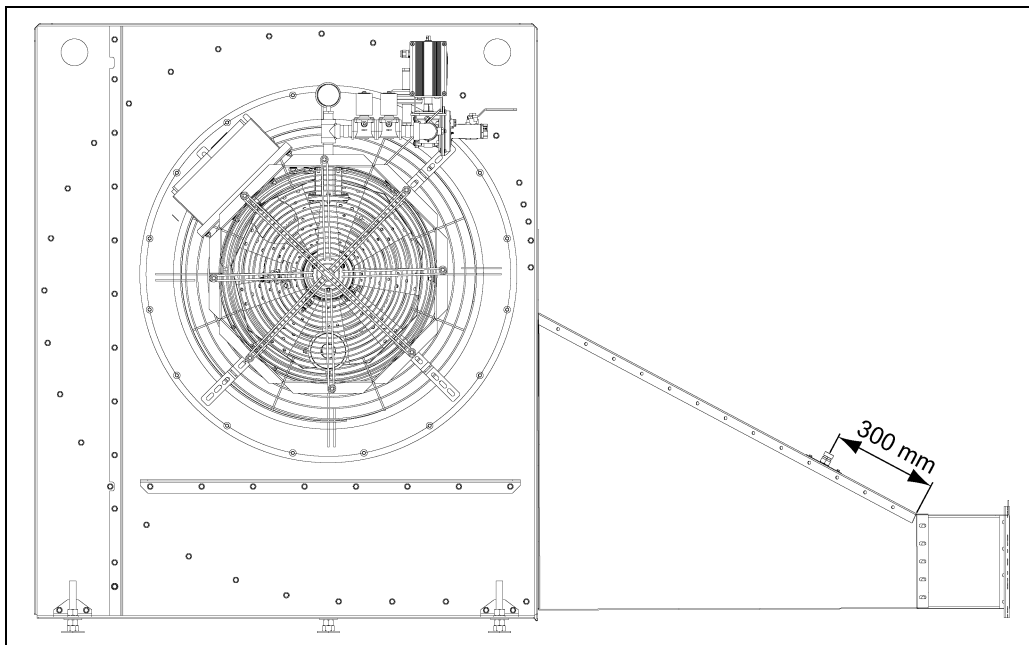

Figure 4G
1. Cut 30 mm diameter hole centrally on transition duct, 300 mm from bottom. (See Figure 4G.)